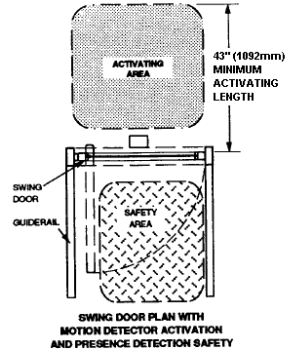

Figure 1
- 3 Approach the safety side of the door first, then have someone else approach the activating side of the door. As long as you are in the safety area of the door, it should not open, see Figure 1.